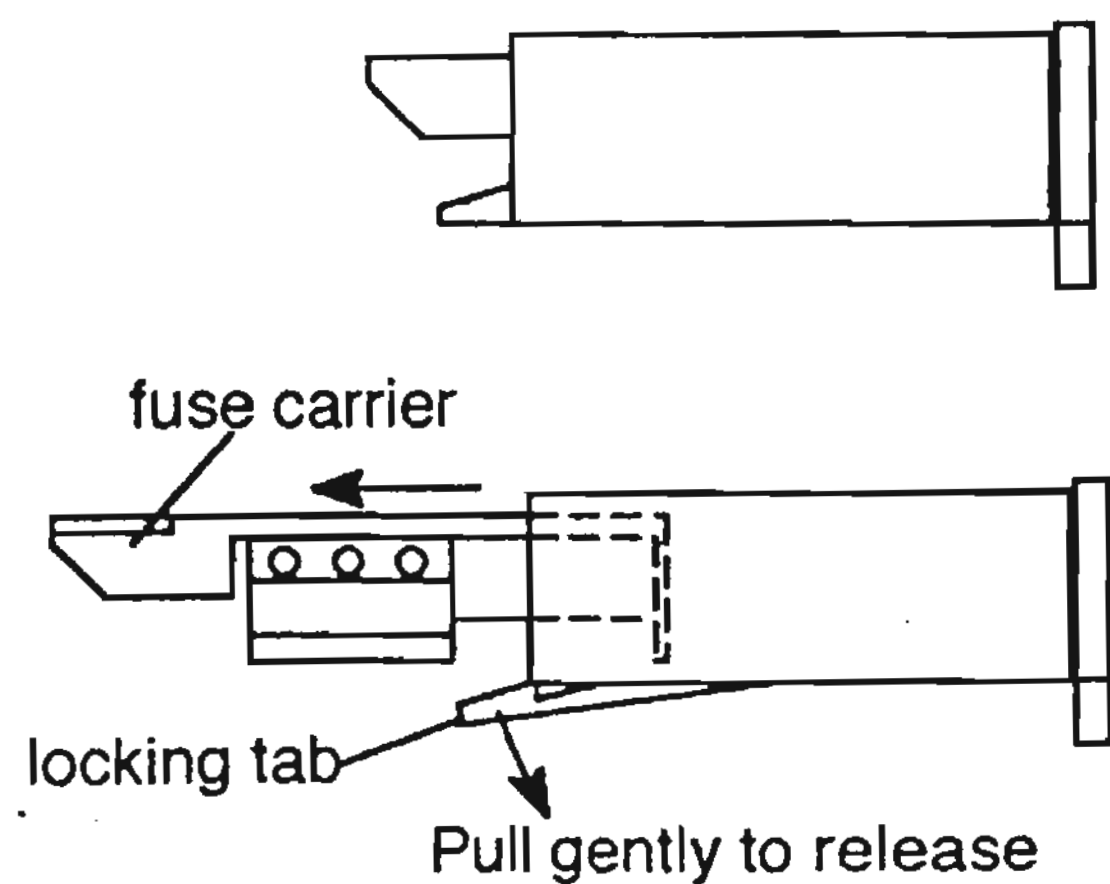

Fig 5-5
3. Gently pull on locking tab to release fuse carrier, shown in **Fig. 5-5**, and slide the carrier out to access fuses.